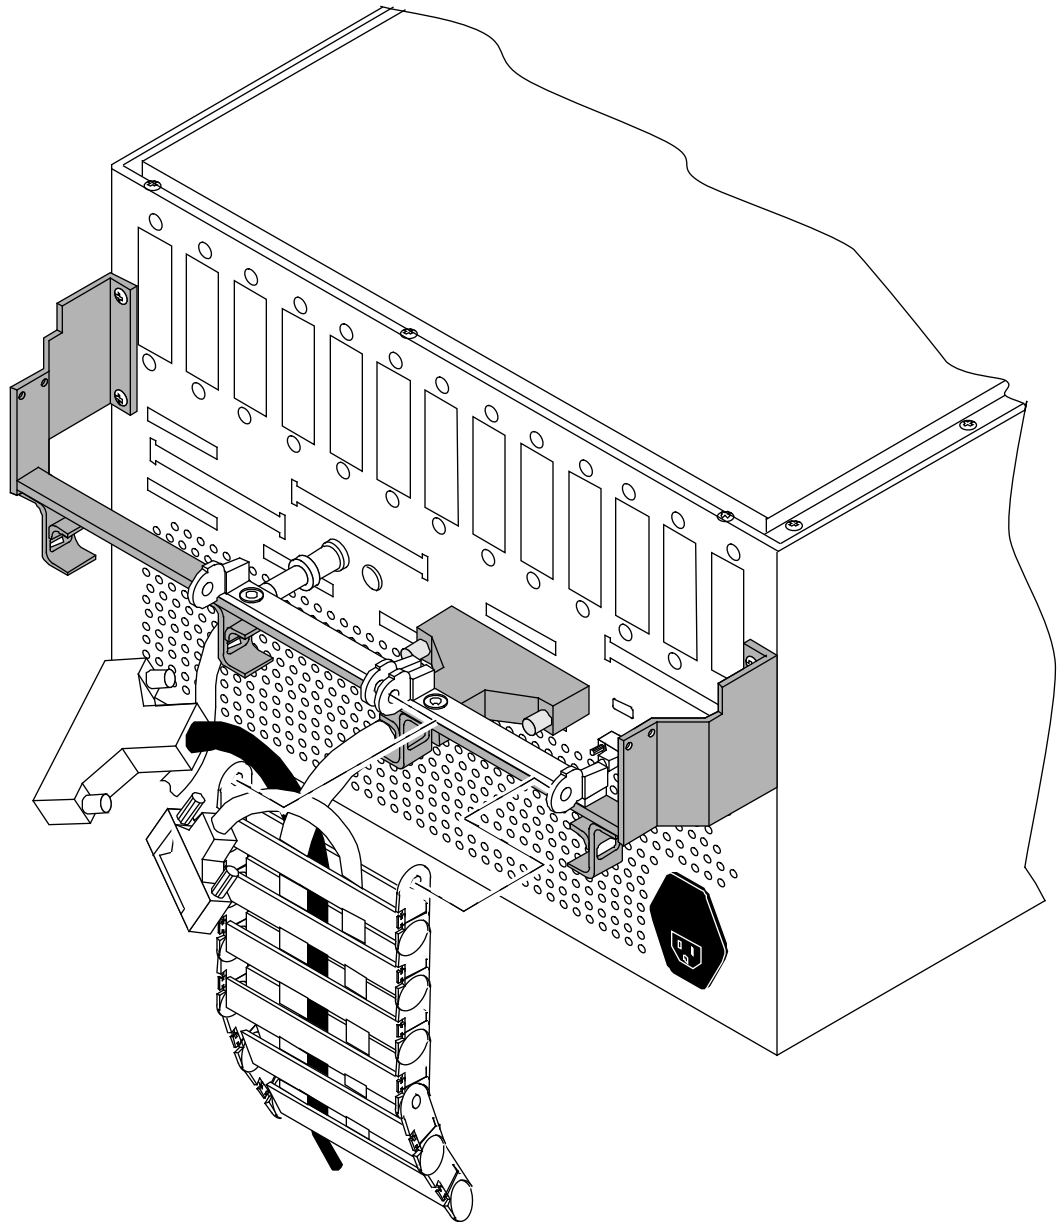

Figure 4. Flexible Cable Way
2. Disconnect the flexible cable ways by removing the two screws that secure them to the VME tray. Refer to Figure 4.
14. Reconnect the flexible cable way using the two screws originally removed from the flexible cable-way bar. Refer to Figure 4.